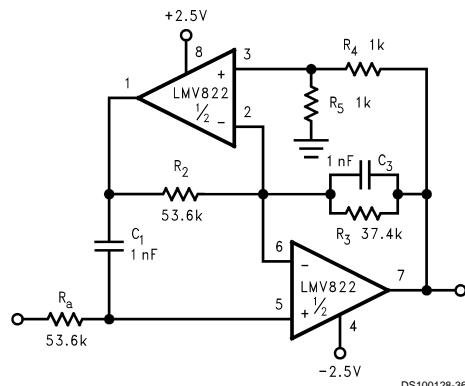
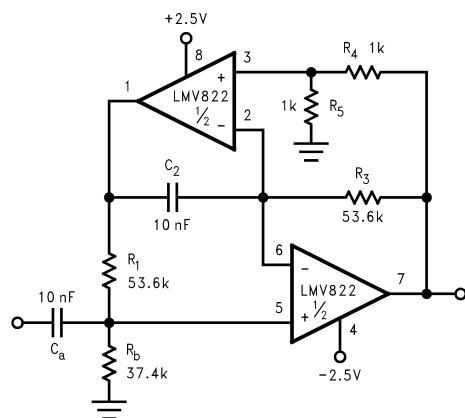
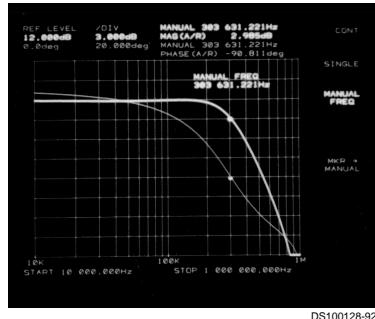

FIGURE 10. Dual Amplifier, 3 kHz Low-Pass Active Filter with a Butterworth Response and a Pass Band Gain of Times Two
FIGURE 11. Dual Amplifier, 300 Hz High-Pass Active Filter with a Butterworth Response and a Pass Band Gain of Times Two
FIGURE 12. 300 kHz, Low-Pass Filter, Butterworth Response as Measured by the HP3577A Network Analyzer
The LMV822/24 bring economy and performance to DAAFs. The low-pass and the high-pass filters of *Figure 10* and *Figure 11* (respectively), offer one key feature: excellent sensitivity performance. Good sensitivity is when deviations in component values cause relatively small deviations in a filter's parameter such as cutoff frequency ( $F_c$ ). Single amplifier active filters like the Sallen-Key provide relatively poor sensitivity performance that sometimes cause problems for high production runs; their parameters are much more likely to deviate out of specification than a DAAF would. The DAAFs of *Figure 10* and *Figure 11* are well suited for high volume production.
Single Amplifier versions require a large open-loop to closed-loop gain ratio - approximately 50 to 1, at the  $F_c$  of the filter response. Figure 12 shows an impressive photograph of a network analyzer measurement (hp3577A). The measurement was taken from a 300kHz version of Figure 10. At 300 kHz, the open-loop to closed-loop gain ratio @  $F_c$  is about 5 to 1. This is 10 times lower than the 50 to 1 "rule of thumb" for Single Amplifier Active Filters.
In addition to performance, DAAFs are relatively easy to design and implement. The design equations for the low-pass and high-pass DAAFs are shown below. The first two equation calculate the  $F_c$  and the circuit Quality Factor (Q) for the LPF (Figure 10). The second two equations calculate the  $F_c$  and Q for the HPF (Figure 11).
To simplify the design process, certain components are set equal to each other. Refer to Figure 10 and Figure 11. These equal component values help to simplify the design equations as follows:
To illustrate the design process/implementation, a 3 kHz, Butterworth response, low-pass filter DAAF (Figure 10) is designed as follows: